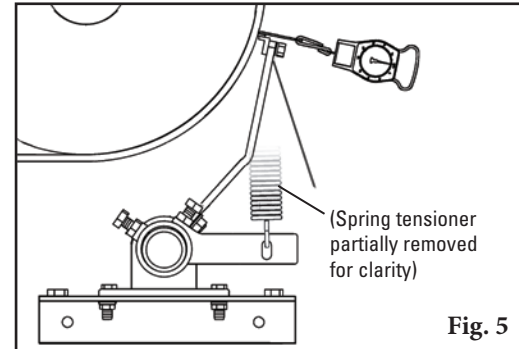

Fig. 5
7. **Cutting the access hole.** Cut access hole, centering the bottom edge on the adjusted intersecting mark ("+") established in Step 4. Width of hole should be 5" (125mm); height should be 9-1/2" (238mm) for extra small tips, 12" (300mm) for small tips or 13-1/2" (338mm) for medium tips. Access hole may be oriented within the range shown (Fig. 5), provided bottom edge is still centered as described above.
- 10. Check for Correct Blade Tip Tension.** Place the Tip Tension Gauge (supplied with cleaner) between the blade tip and belt on the center tip (or tips) (Fig. 5). While pulling in a straight motion, read the tension required to break contact between the tip and belt. 18 lbs. (8Kg) is recommended. Also check tension on both outer tips. Make tension adjustments if needed.